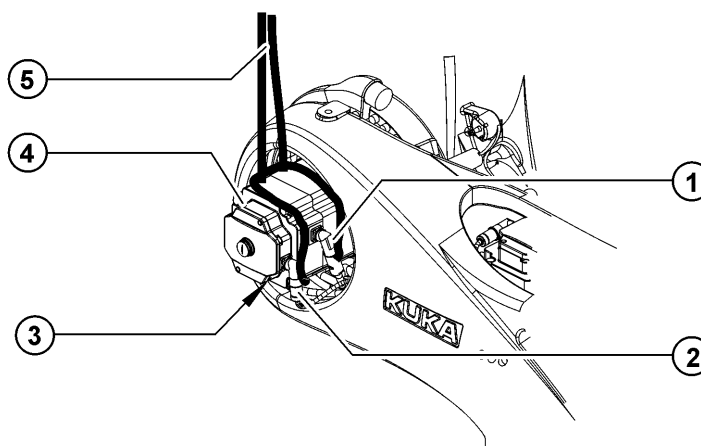

Fig. 11-4: Removing motor A2
3. Release and unplug connectors XM2 and XP2 at the sockets (>>> Fig. 11-4).